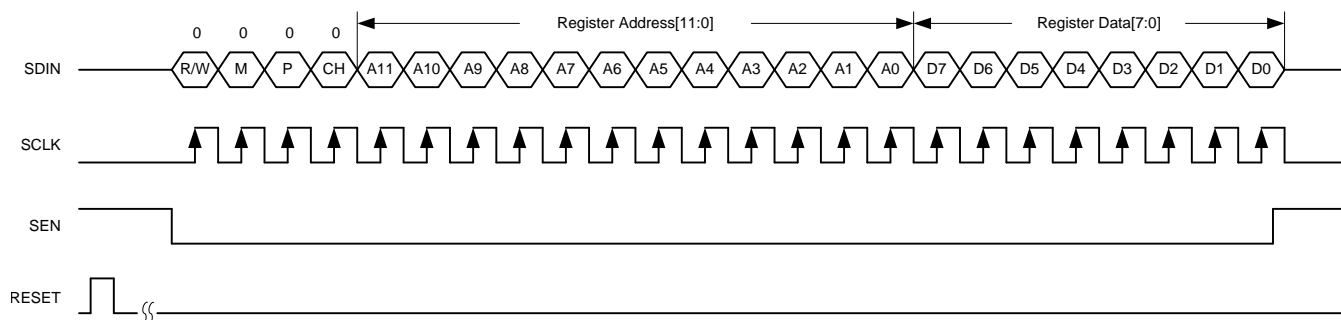

Figure 67. Serial Register Write Timing Diagram
3. Writing the register content as shown in Figure 67. When a page is selected, multiple writes into the same page can be done.